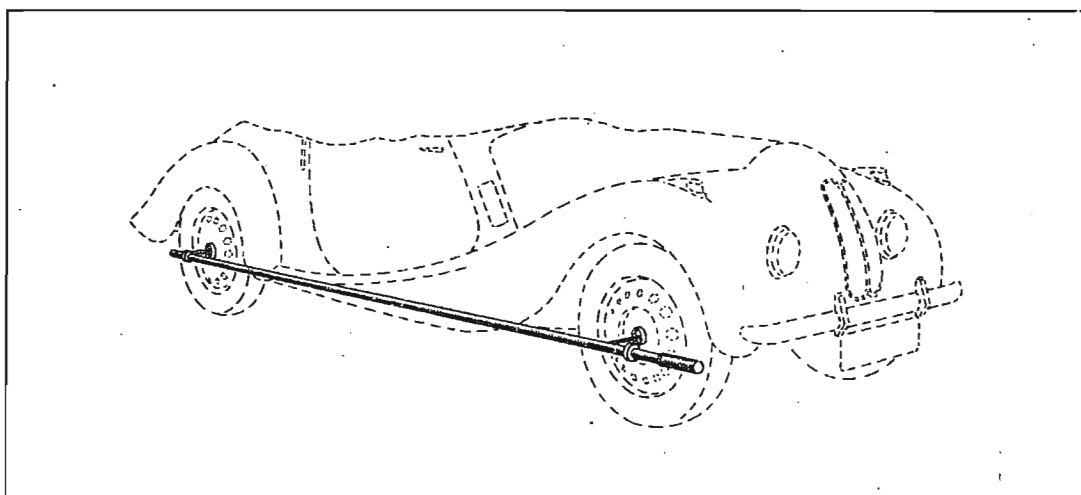

Fig. 5.
16. Remove both front embellisher caps together with the two dust caps, and using trammels T.F.N.5033, check the distance between the centres of the hubs, (see fig. 5). This dimension must be the same on each side. If adjustment is required, both ball bolts must be adjusted in the same direction, (i.e. - one being screwed in while the other is unscrewed), care being taken to ensure that both bolts are adjusted an equal amount, and also that the rack is in the central position while these adjustments are made. When the correct setting has been determined, tighten the locking nuts.